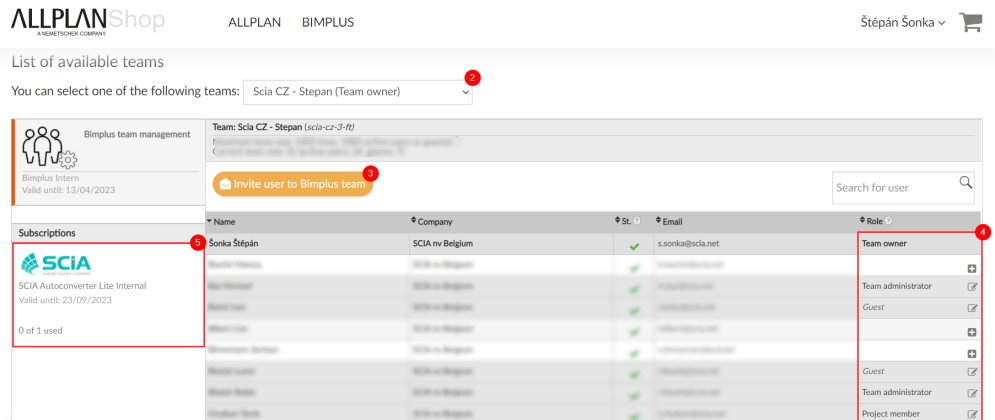

Figure 46: Team management
2. In the "Subscription and users" page you can manage the licenses of products and their assignment and people's access to the team as well. On top, you can browse the teams you are a member of. (Figure 46)
3. You can invite people to your team. In case these people do not have an Allplan account, they will be automatically asked to create one in the invitation email. (Figure 46)
4. In the list of collaborators in the team, you can manage rights. Click on the plus icon to add colleagues from your organisation to the team, or the pencil icon to edit rights. (Figure 46)
5. In the left tab, you can see your active subscriptions, click on the specific SCIA AutoConverter subscription for the assignment. (Figure 46)